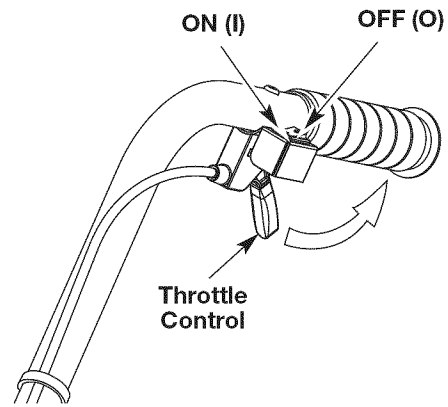

Fig. 10
3. Put the On/Off Stop Control in the **ON (I)** position (Fig. 10).
2. Put the On/Off Stop Control in the **OFF (O)** position (Fig. 10).